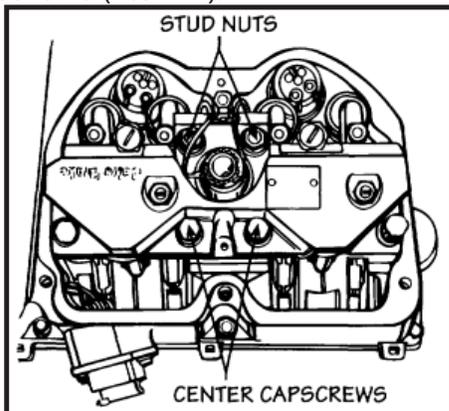

Fig. 8
4. Torque the four capscrews and the two stud nuts in two stages as follows (see Fig. 8):